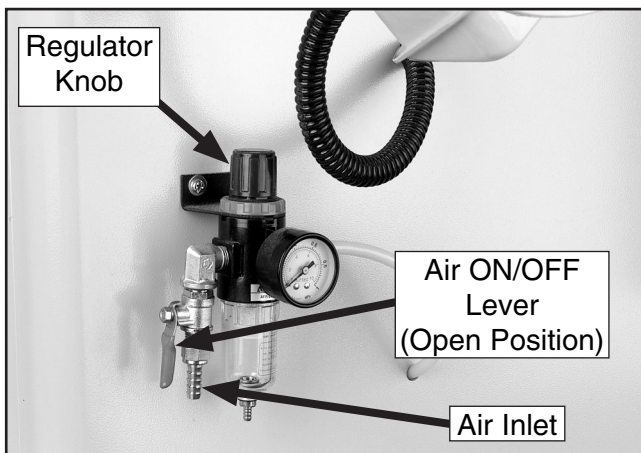

Figure 11. Air inlet located on regulator.
1. Connect the hose from your air compressor to the air inlet (**Figure 11**) on the regulator.
3. Lift the regulator knob (**Figures 11 & 12**) and turn it until the air pressure gauge reads 75 PSI. **Note:** Turn the knob clockwise to increase the air pressure and counterclockwise to lower the air pressure.